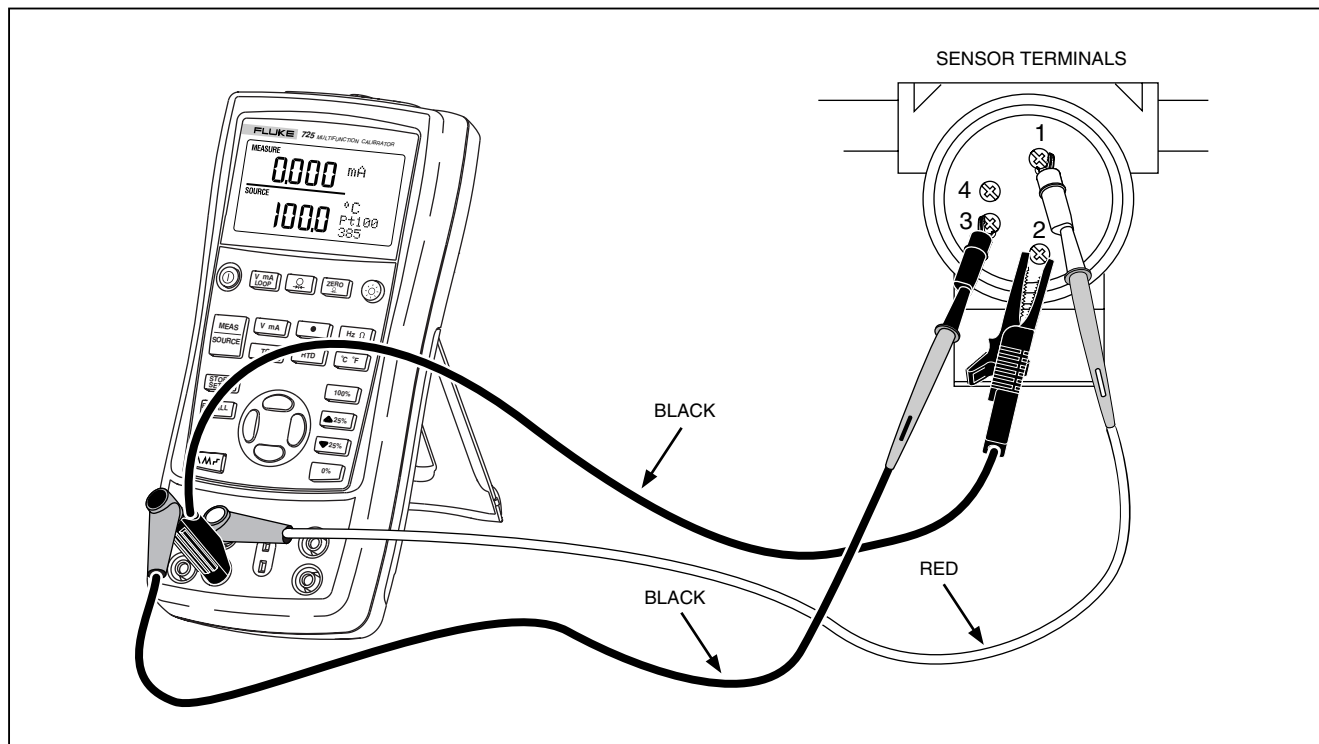

Figure 17. Connections for Simulating 3-Wire RTD
Connect the calibrator to the instrument under test as shown in Figure 17. Proceed as follows to simulate an RTD:
*Use the 3W and 4W terminals for measurement only, not for simulation. The calibrator simulates a 2-wire RTD at its front panel. To connect to a 3-wire or 4-wire transmitter, use the stacking cables to provide the extra wires. See Figure 17.*